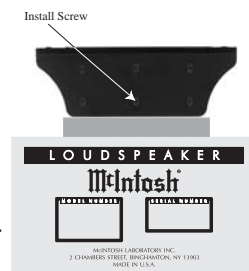

Figure 3
6. Using the supplied Allen Wrench remove the Mounting Bracket from the top of the Loudspeaker by removing the screw. Install one screw (1/4" x 20 Flat Head) into the opening at each end of the Loudspeaker. Refer to figure 3.